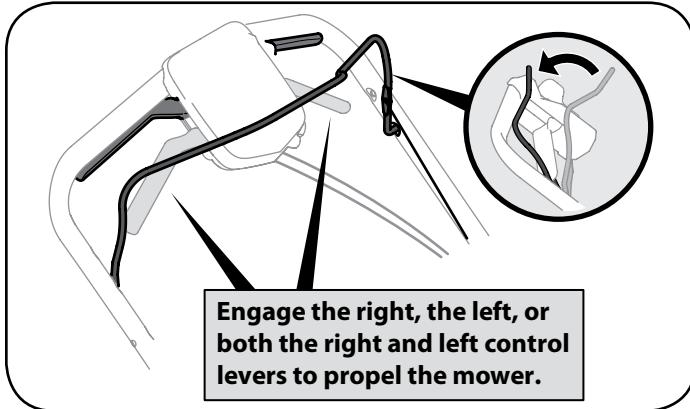

Figure 13
- a. Once the engine is running and while continuing to hold the blade control down, squeeze either (or both) drive controls against the upper handle to propel mower. See Figure 13.